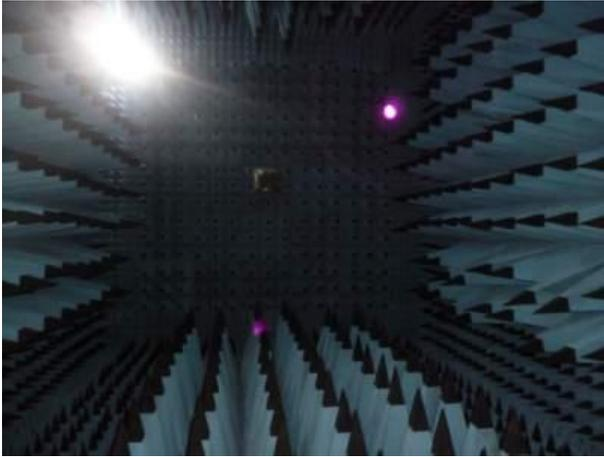

Figure. 2
- A. The 3D chamber provides less than -40dB reflectivity from 600MHz to 8.5GHz and a 40cm diameter spherical quiet zone. The measurement results are calibrated using both dipoles and standard gain horns (see figure. 2).